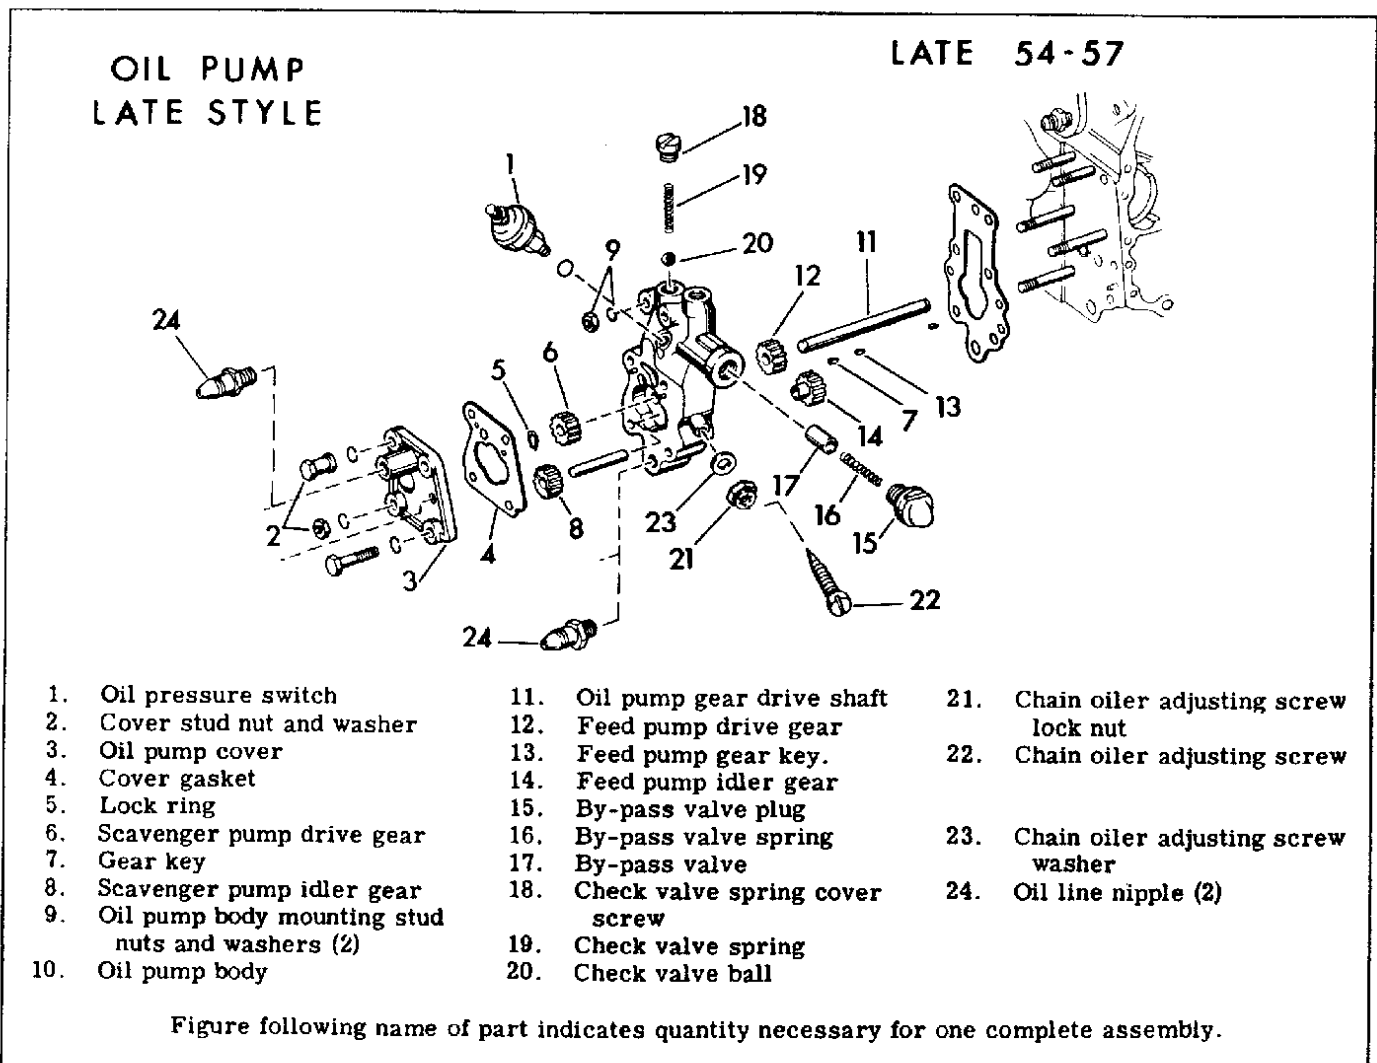

Figure 3D-1. Oil Pump - Exploded View
#### DISASSEMBLING OIL PUMP (Fig. 3D-1)
Disconnect oil lines and oil pressure switch (1) from pump. See Fig. 3D-1A. Remove four nuts and washers (2) from gearcase studs, that hold oil pump cover in place. Remove oil pump cover (3) and gasket (4). Remove lock ring (5), scavenger pump drive gear (6), gear key (7) and scavenger pump idler gear (8). Remove two oil pump body mounting stud nuts (9) and slip pump body (10) off studs and gear drive shaft (11). Remove oil feed pump drive gear (12), key (13) and idler gear (14).